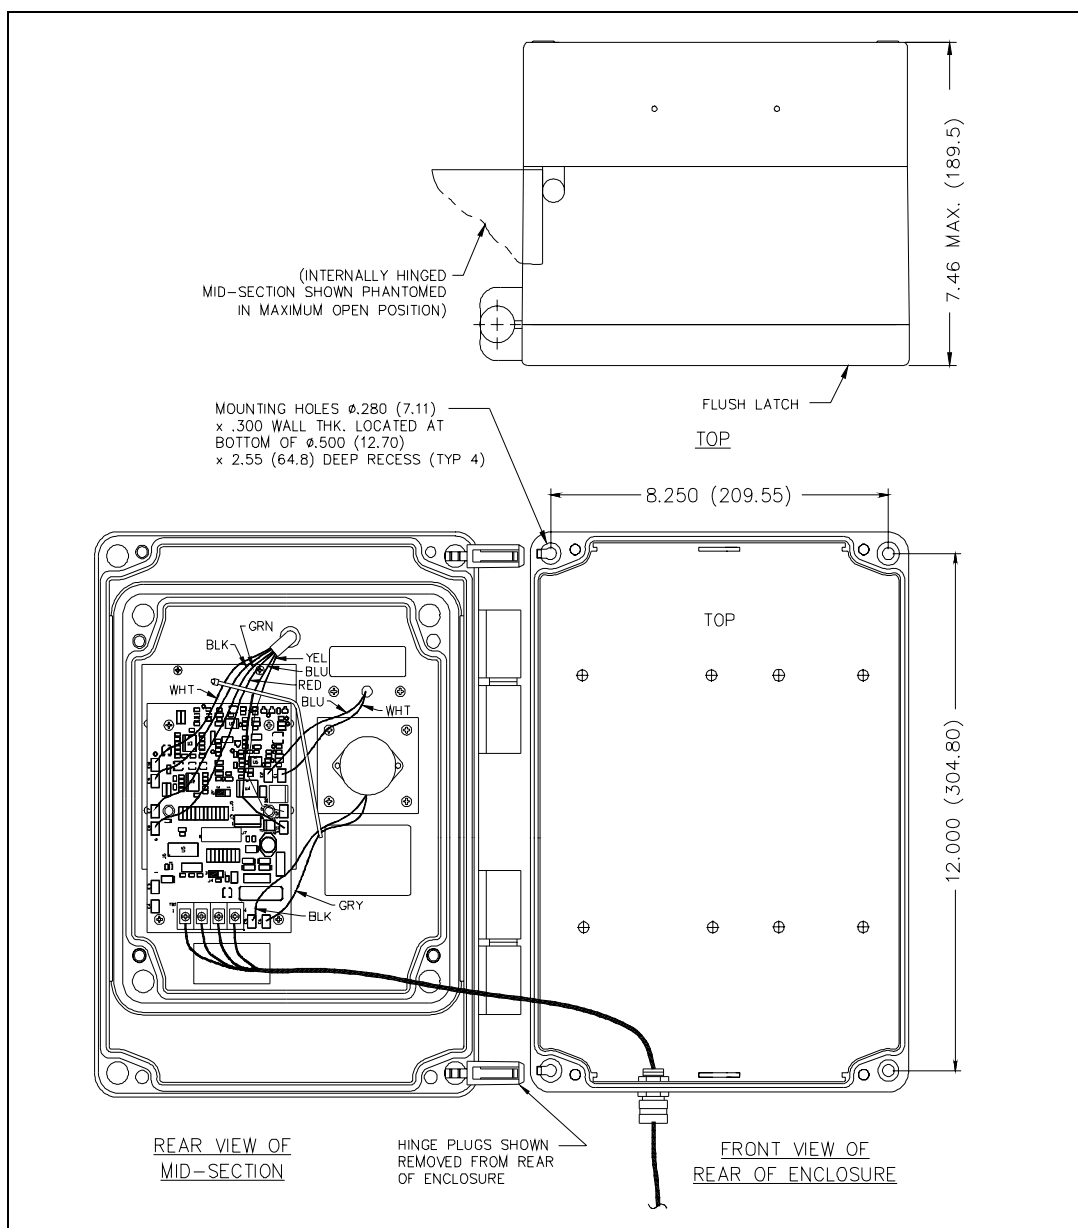

Figure 6. Model 257-001 Installation Drawing
3. Open the front half of the enclosure to the left until the length of modular telephone cord inside the enclosure can be disconnected from the printed circuit board terminal strip. See Figure 6. Pull on the left side of the enclosure until the hinge plugs pull loose to separate the front half from the rear half. Set the front half of the enclosure aside.